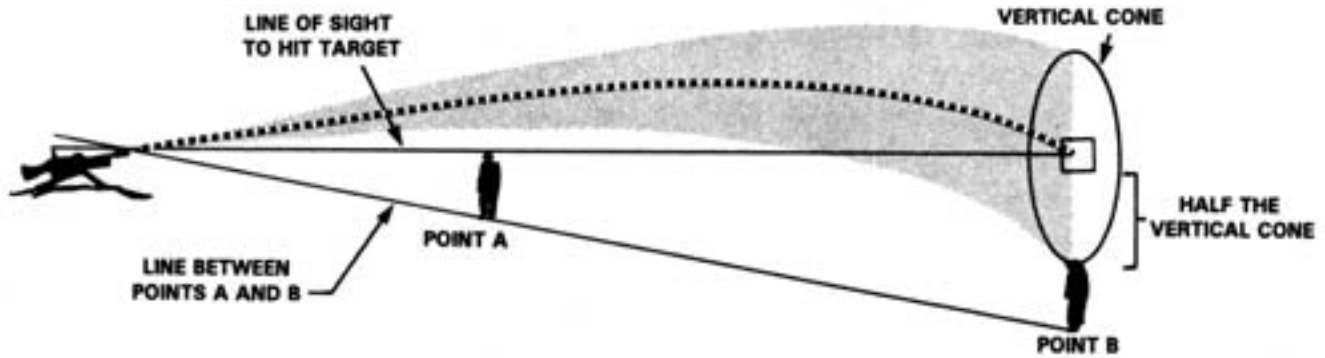
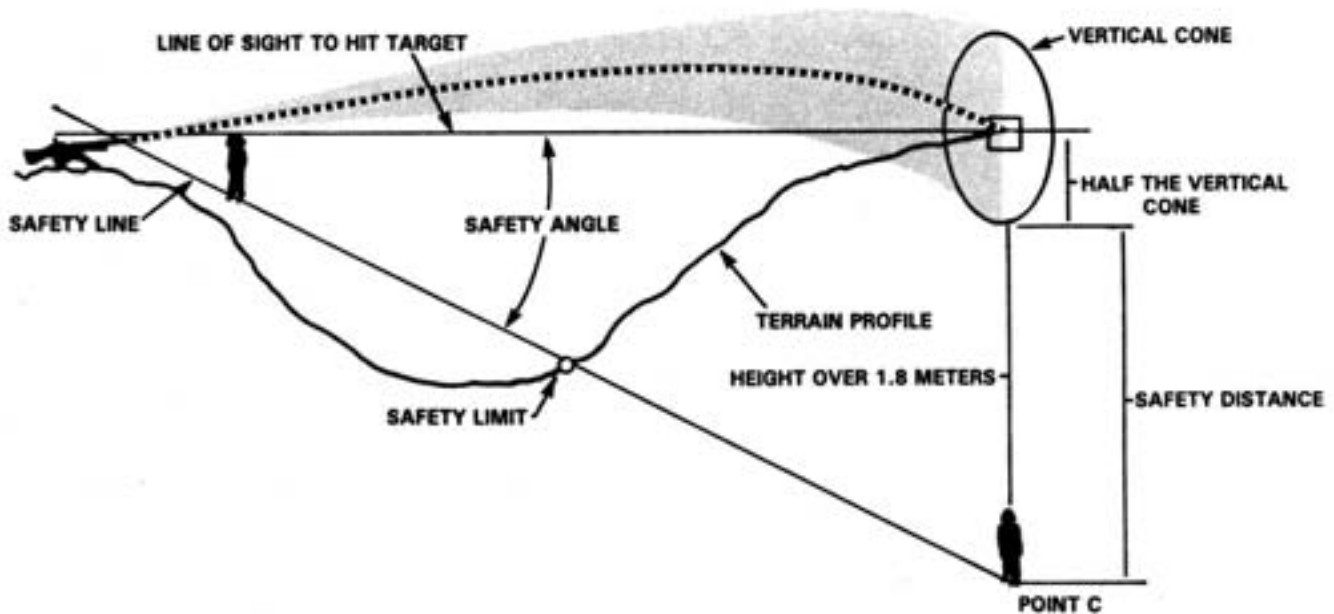

Figure 6-23. Theory Behind the Gunner's and Leader's Rule.
Figure 6-24. Application of the Gunner's and Leader's Rules.
b. Uneven Terrain. Level or uniformly sloping ground between the gun and target will seldom be found in the field. This prevents the use of standard overhead firing tables in all but a few cases. The problem presented to the gunner or leader planning the fires of guns is the determination of the exact point on the ground to which it is safe for friendly troops to advance without being hit by friendly overhead fire. The exact point on the ground where the lowest bullet hits in any given burst depends on the terrain, the gun position, and the target location. This exact point is impossible to practically calculate because of the infinite number of combinations possible. So, in order to fire over the heads of friendly troops in these instances, calculations must be based on other criteria. In figure 6-23 a line is shown that extends from the gun position to a point lower than the target by one half of the vertical cone height and the height of a standing man. A man could safely stand anywhere on or below the line between points "A" and "B." Point "A" is the point where the man's head touches the line of sight and point "B" is the point underneath the target. If a safety distance is added by drawing the line to point "C," as shown in figure 6-24, clearance is provided above the troop's heads even if they are standing directly under the target. Safety can be guaranteed at any point on or below that line regardless of the terrain profile. The line between "A" and "C" in figure 6-24 is the safety line. The line angle between the line of sight and the safety line is the safety angle. The